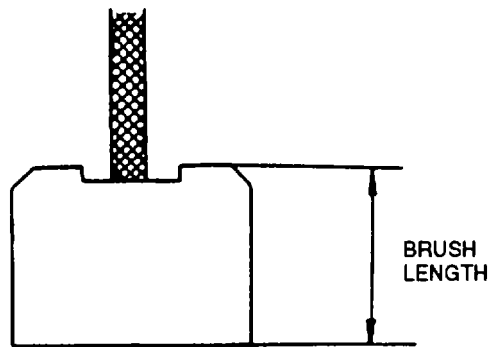

FIGURE 3-30. Measuring Brush Length
- g. Measure brush length, refer to FIGURE 3-30. If less than 0.51 inch (13 mm), replace brush holder and/or yoke assembly.